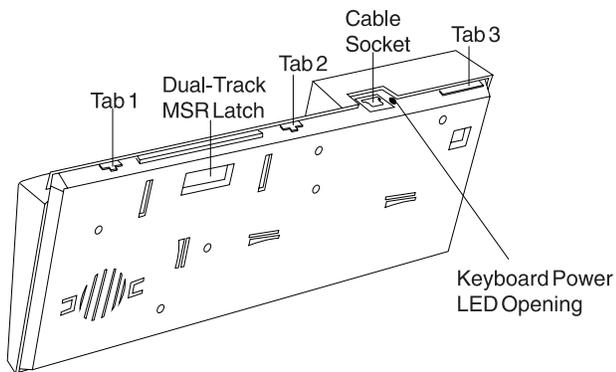

Figure 4-4. Removing the ANPOS Keyboard Cover
- 2 Unlatch keyboard cover tabs 1, 2, and 3, in that order. See Figure 4-4 on page 4-12.